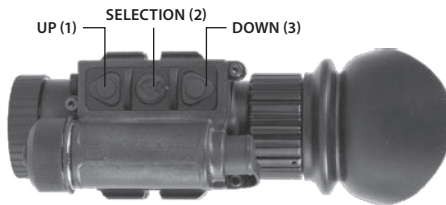
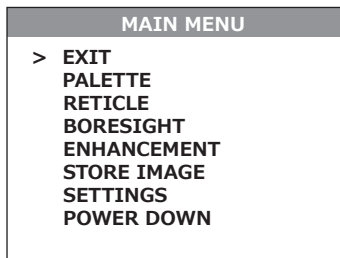

FIGURE 3-14. MAIN MENU NAVIGATION BUTTONS
FIGURE 3-15. MAIN MENU
To display the MAIN MENU, push and hold down the button (2) on the control panel (Figure 3-14).
Once the MAIN MENU is displayed (Figure 3-15), use the UP and DOWN buttons (Figure 3-14) to navigate through the items on the menu.